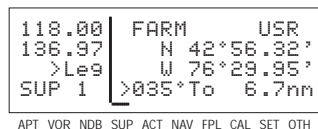

Figure 5-29
- Press **ENT** to approve this position. The cursor will automatically turn off (figure 5-29).